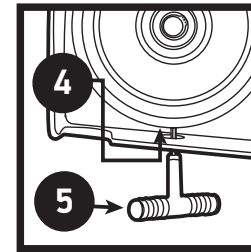

Figure 13
4. Loosen the retaining nut that locks the upper idler wheel adjusting screw. (Figure 13) Using screw